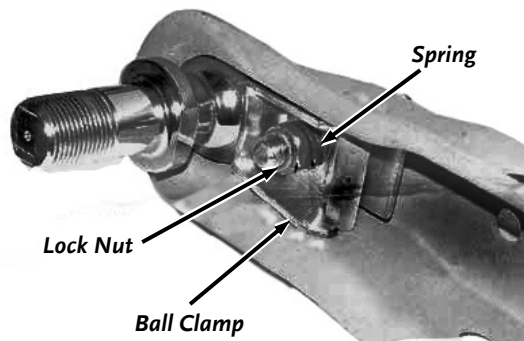

Figure 45
32. With the proper size ball in the socket of the hitch coupler, close the latch of the coupler completely (**Figure 45**). Verify that the locking trigger is properly engaged in its detent.